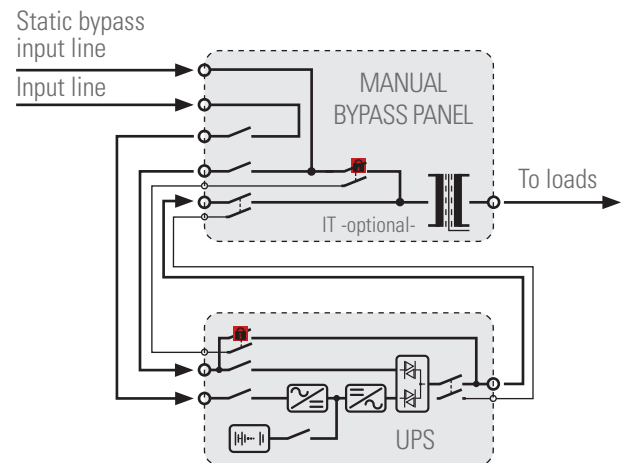

Fig. 2. Connection of the manual bypass panel with separate static bypass line to the UPS.
- ☐ With a separate static bypass line (Fig. 2). These panels have separate terminal blocks for the input and static bypass networks, which allows both networks to be supplied from different sources, such as: two companies, a company and a generator set, etc.
- In Fig. 2 and 3, the galvanic isolation transformer is shown at the output, as, with the exception of design constraints or particular specifications, it is the most recommended arrangement in terms of taking best advantage of its intrinsic characteristics, performance and price.